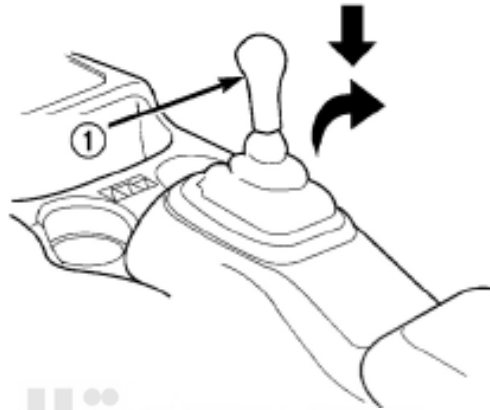

Figure 3-151 Removal of gearshifting handle/ dust boot
- (1) Lift up the sleeve gasket for shift lever.
- (2) Disassemble the knob and sleeve gasket components for shifting (Figure 3-151).